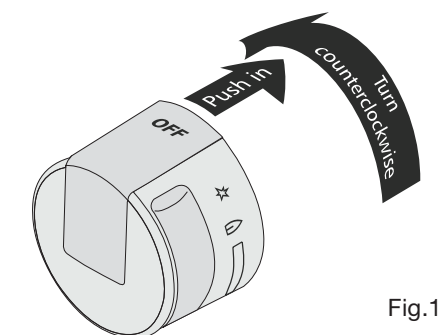

Fig.1
- Push the desired gas surface control knob in and turn counterclockwise out of the OFF position -Fig.1.